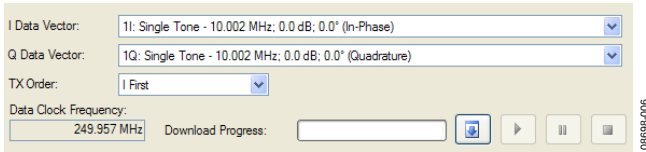

Figure 6. Loading DPG2 Vectors
7. In the lower portion of the screen, select **II / IQ: Single Tone** as the **Data Vector**, choosing the appropriate in-phase and quadrature data for the I and Q vectors, shown in Figure 6. The other options can be left at their default.